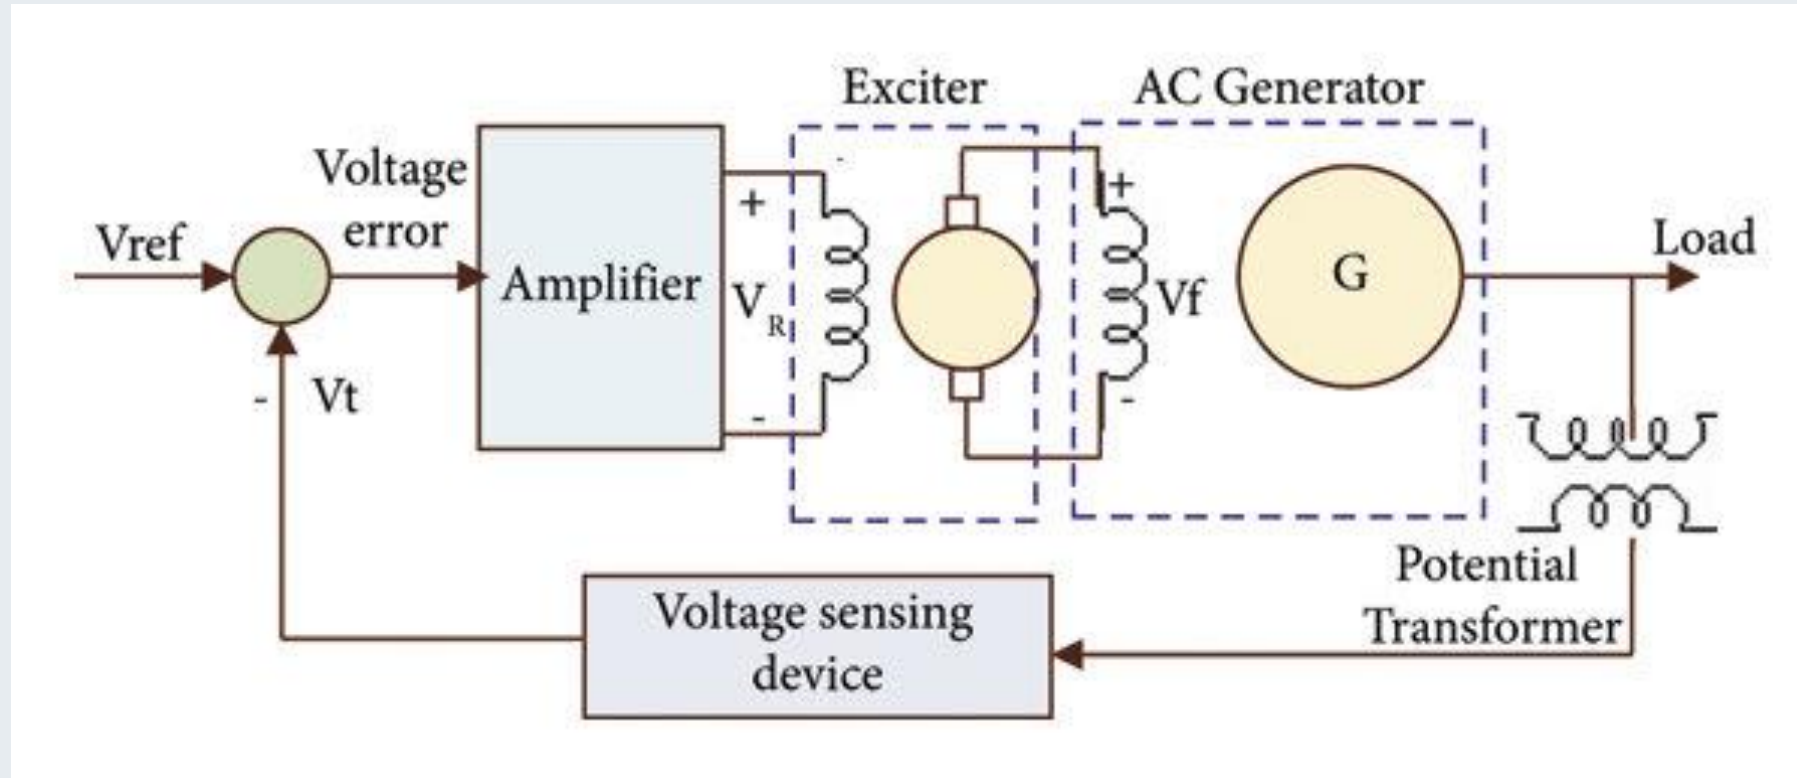

Figure 7. The simplified Circuit diagram of AVR control.
- These days, most exciters are either brushless or AVR loop as presented in Fig.7